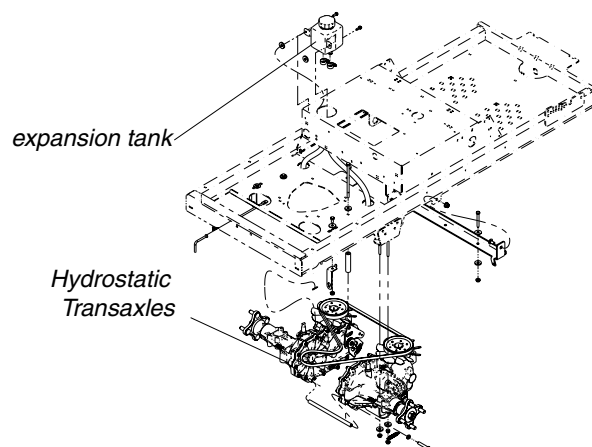

Figure 9
- 1. Your zero turn riding mower is equipped with dual integrated hydrostatic pumps, motors, and planetary gear reduction transaxles. The fluid level in the expansion tank must be maintained at 1/2" to 1" above the bottom of the tank. See Figure 9.